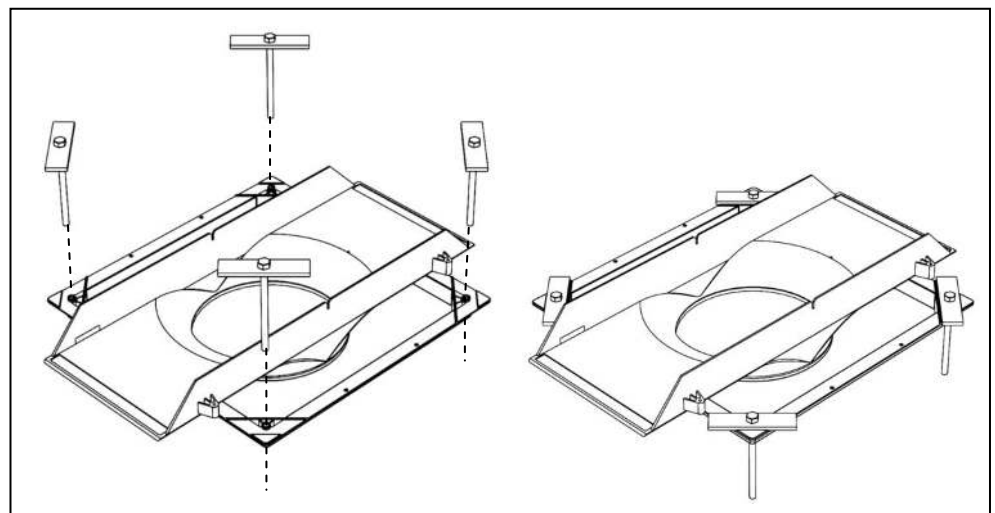

Fig 9: Insert the four M8 bolts and hold down bars into the corners of the brace
- Thread a hold down bar onto the M8 bolt and push the bolt almost all the way into the hole in each corner of the brace (Fig 9).